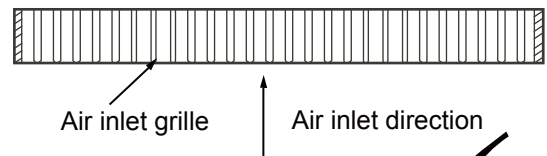

Figure 2.4
1. In creating the air return plenum on the air inlet panel, make sure the air grilles are angled such that they are parallel to the direction of the air inlet. See Figure 2.4.